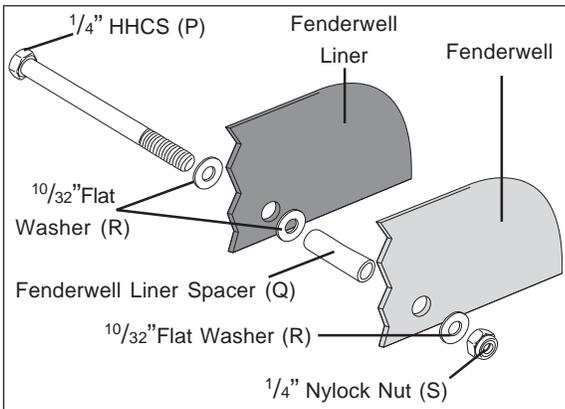

Figure 19
2. Place the spacer between the fenderwell liner and the fenderwell at the center hole in the fenderwell liner (the hole nearest the air spring). Attach using the $\frac{1}{4}$ " HHCS (P), the $\frac{10}{32}$ " flat washers (R), and $\frac{1}{4}$ " nylock nut (S) provided (Figure 19).
NOTE: Fasten the HHCS with the washer and nut behind the fenderwell (Figure 19). Tighten securely.